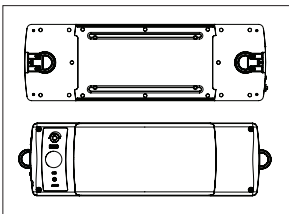

Fig. 9
Attach the two included brackets (C) to a wall or ceiling using the fasteners provided. Ensure the brackets are parallel and aligned with each other, positioned no more than 9" apart (Fig. 9). Locate the grooves on the long sides of the fixture, rotating and snapping the fixture into the brackets. Remove by pressing down on the tabs on the brackets.